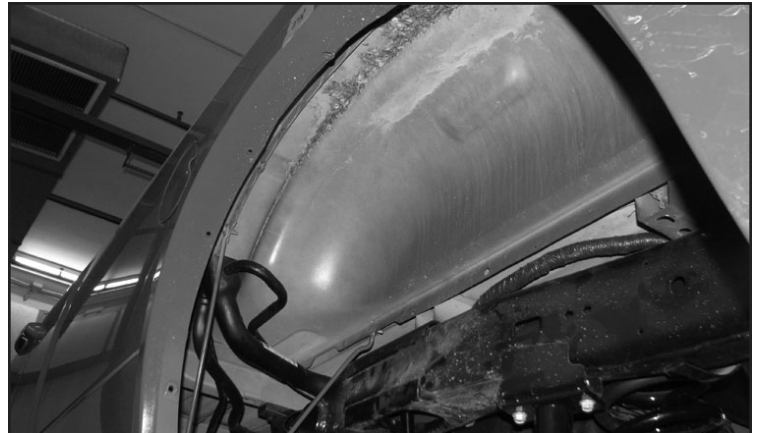

FIGURE 42 - STEP 38
38. Jack up the rear end of the vehicle and support the frame rails with jack stands. Remove wheels and tires. Remove and save the rear driver and passenger inner fender liners. **SEE FIGURE 42**